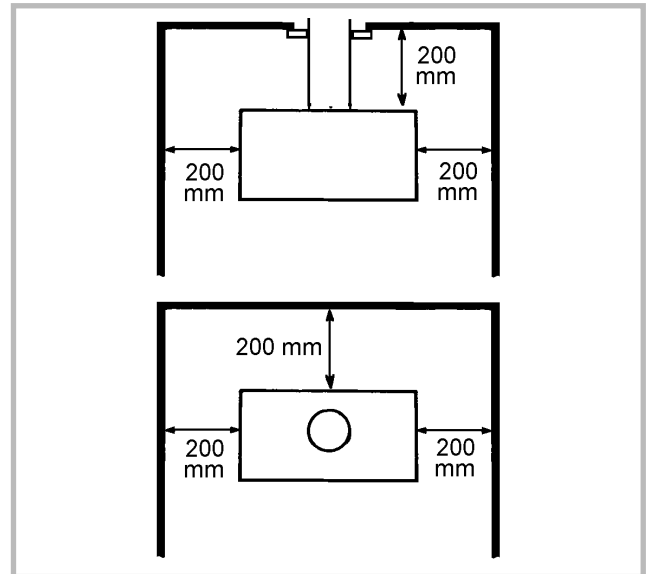

Figure 4 - Minimum clearances
**Position the unit to comply with the minimum clearances to combustible material (figure 4).**